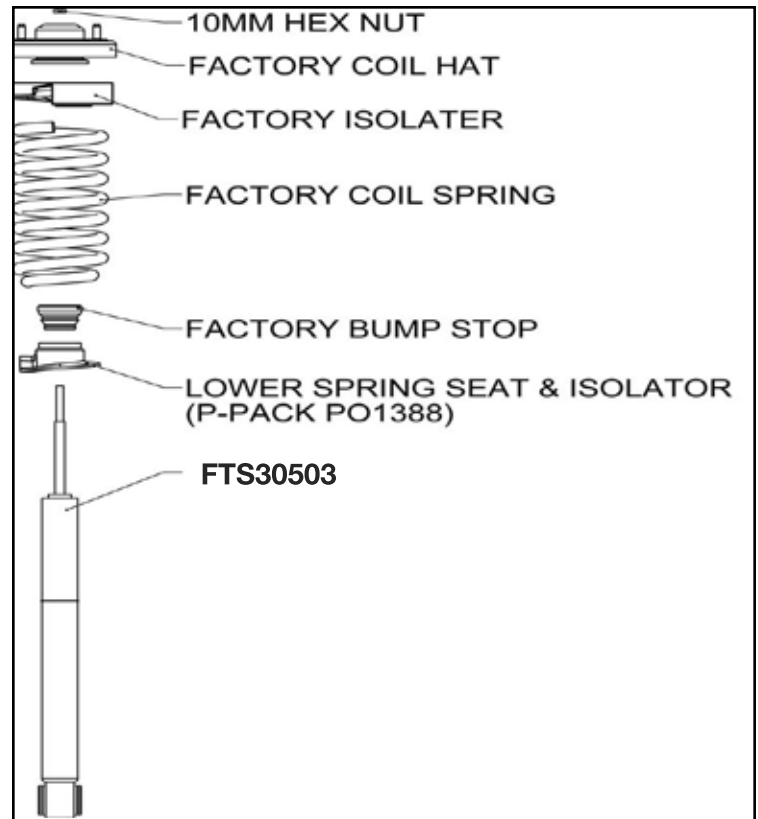

**FIGURE 27 - STEP 26**
26. Locate the Alignment cam kit (FT292). Locate the factory control arms. Install the lower control arms into the Fabtech crossmembers using the hardware in the cam kit (FT292). Torque the cam bolts at 200 ft-lbs after alignment. Torque crossmember bolts to 240 ft-lbs. **SEE FIGURE 27**